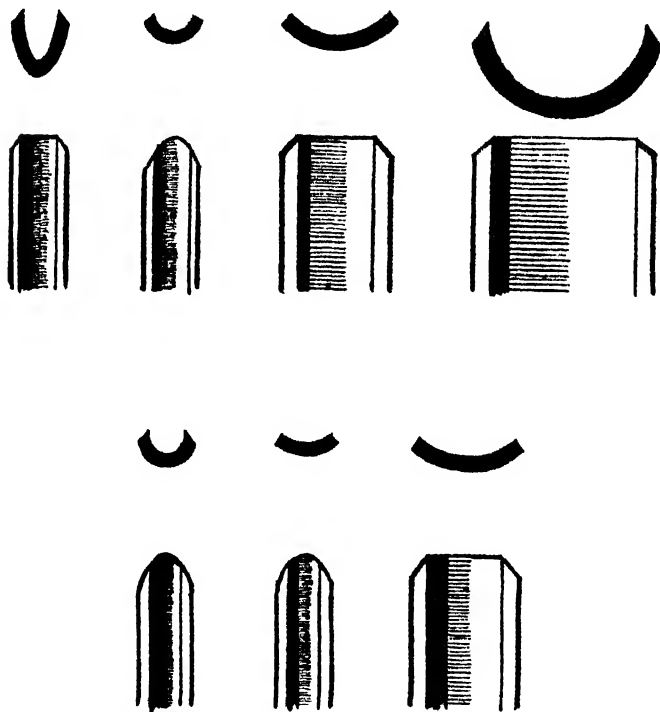

Figure 5. Typical gouge sections.
**Gouges.** The most generally used tool in turning is, no doubt, the gouge which is used for roughing out and also for intricate detail. Gouges can be obtained in various sizes, ranging from  $\frac{1}{4}$  in. to 2 in. wide, some of shallow section and others deep, as you will see from figure 5. For shaping and hollowing out bowls I nearly always use a gouge called a 'long and strong', which is of fairly deep section and made with quite a long and heavy blade. This is most essential, as there is quite some distance between the tool rest and the part of the bowl being turned, and this exerts considerable leverage
Having stoned the bevel of the gouge, a false edge, or burr, is formed which will have to be removed. This is where the slipstone comes into use and is rubbed on the inside of the gouge. The slipstone, being tapered, will fit the curvature of various sizes of gouges. Most people develop their own particular way when sharpening tools and it is best left to the individual to form his own idea. Some prefer to rest the tool on a part of the lathe whilst it is sharpened, others hold it steady into the side of the body. A good way to remove the burr on the cutting edge, is to jab the tool into the bench or a handy piece of wood. Figure 5 shows some of the various shapes of gouges after grinding.